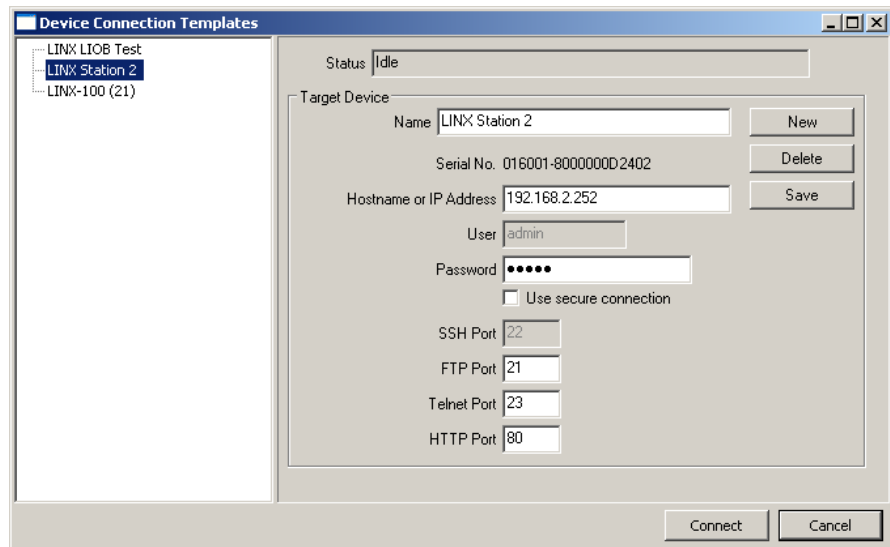

Figure 362: FTP connection dialog.
2. Select the menu: **Connection** → **Connect via FTP**. This opens the FTP connection dialog as shown in Figure 362.